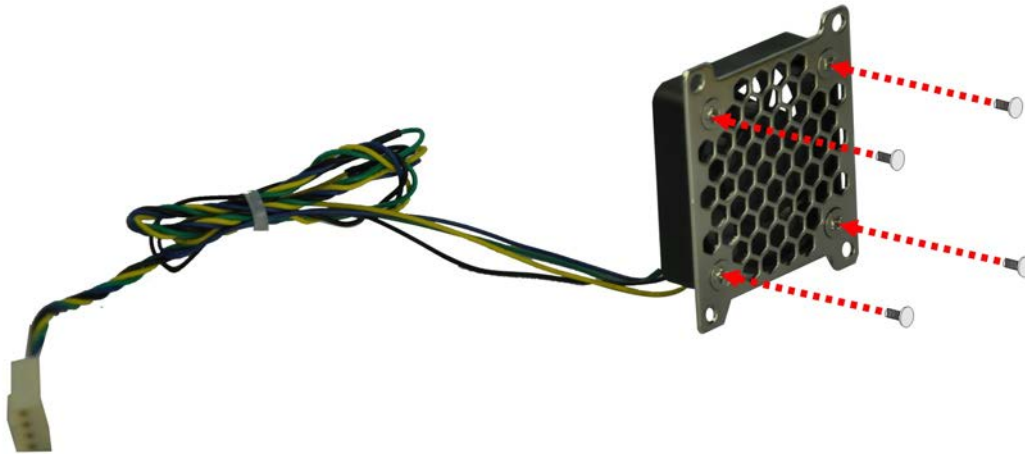

Figure 3-7: Secure the System Fan to the Fan Bracket
Step 3: Attach the system fan to the fan bracket and secure it by four retention screws (Figure 3-7).